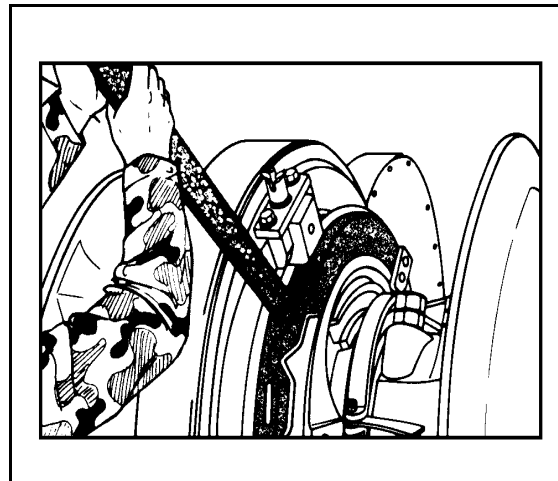

Figure 21-14. Inserting Anchor Bar
- Insert the anchor bar into the pigeonhole on the locking ring (Figure 21-14, page 21-16). The locking ring is then turned forward to disengage the wildcat.